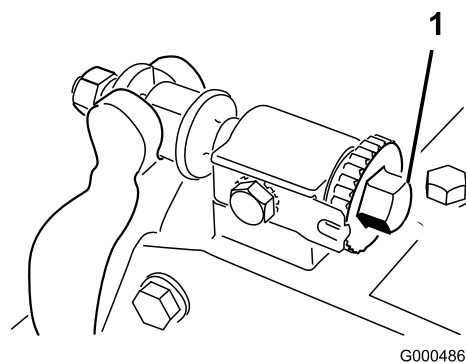
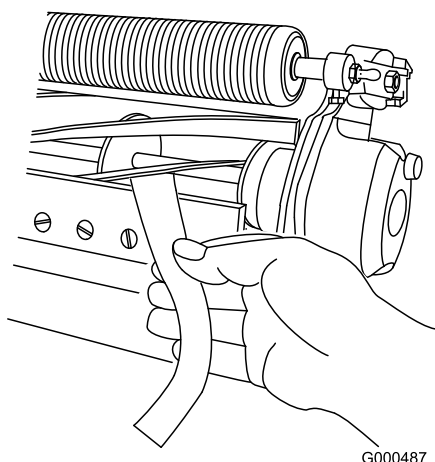

Figure 53
Figure 54
- Make sure reel contact is removed by turning bedbar adjusting screws counterclockwise (Figure 53).
- At one end of reel, insert a long strip of newspaper between reel and bedknife (Figure 54). While slowly rotating reel forward, turn bedbar adjusting screw clockwise (on same end of reel) (Figure 53), one click at a time, until paper is pinched lightly, when inserted
6. After adjustment is accomplished, check to see if reel can pinch paper when inserted from the front and cut paper when inserted at a right angle to the bedknife (Figure 54). It should be possible to cut paper with minimum contact between the bedknife and the reel blades. Should excessive reel drag be evident it will be either necessary to backlap or regrind the cutting unit to achieve the sharp edges needed for precision cutting (see Toro reel sharpening manual).